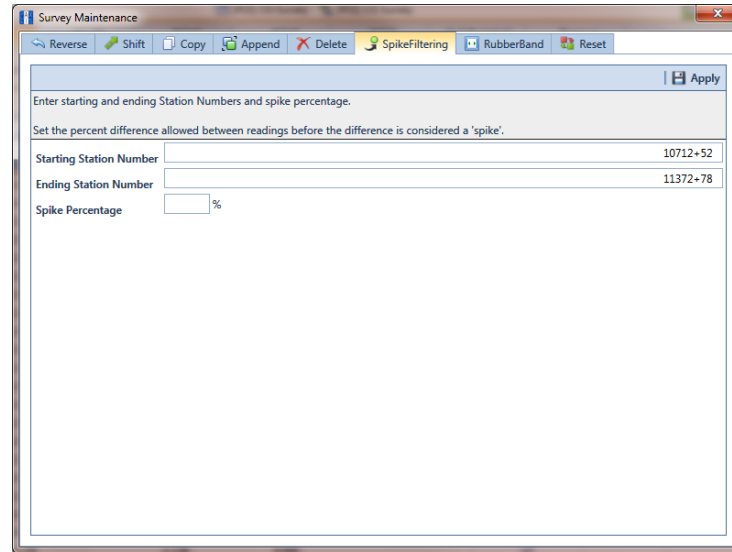

Figure 7-94. Spike Filtering
- 5 Click **Survey Maintenance** to open the *Survey Maintenance* dialog box. Then click **SpikeFiltering** (Figure 7-94, page 306).